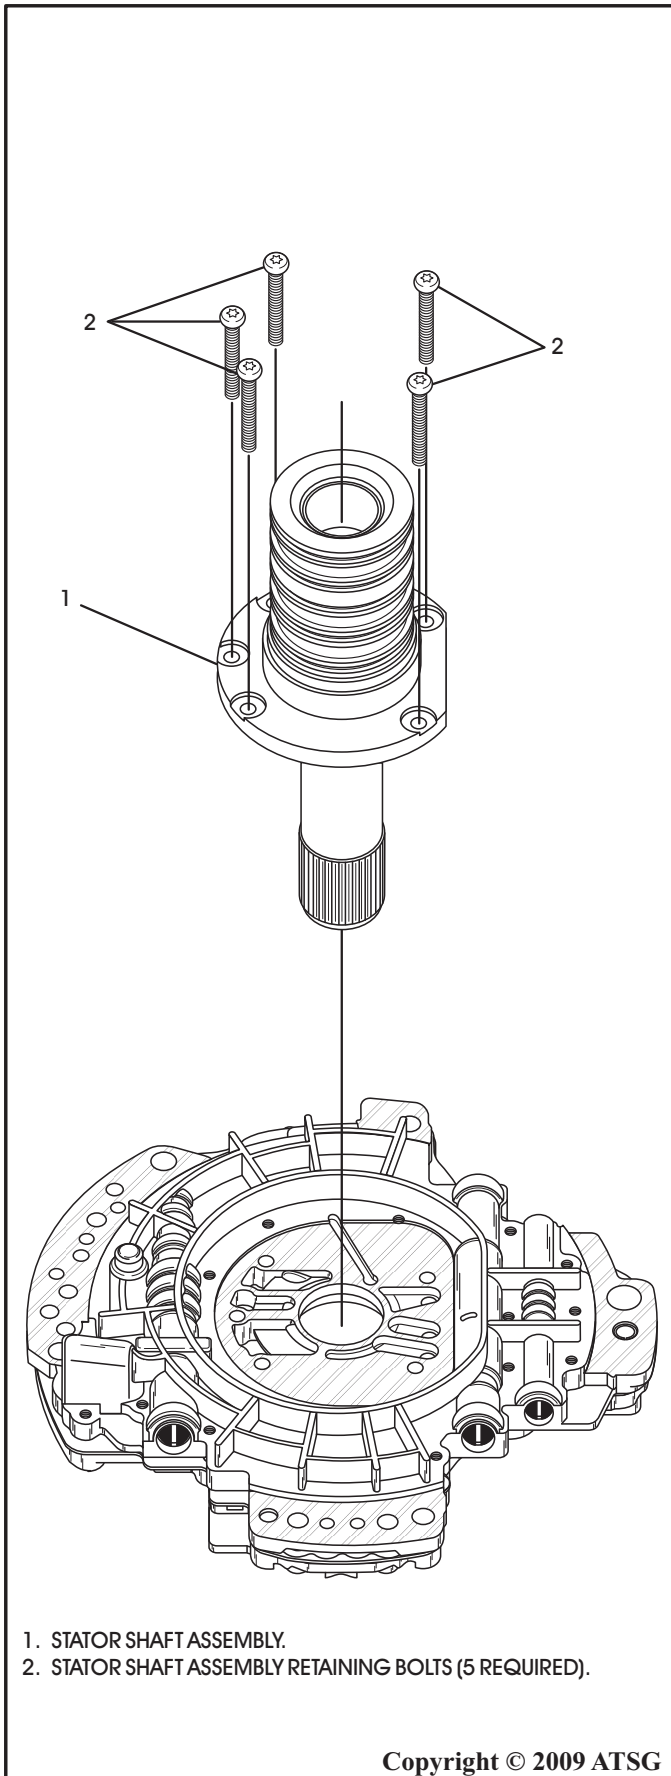

Figure 95
18. Install the stator shaft support into the oil pump assembly as shown in Figure 95.
19. Install the 5 bolts that hold the stator support to the oil pump assembly as shown in Figure 95.